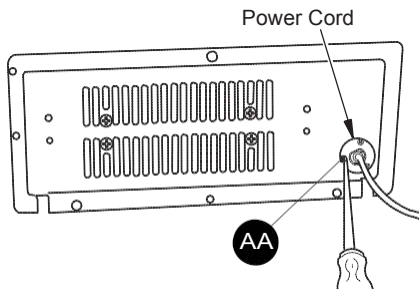

Figure 20 - Attaching Power Cord to Blower Access Panel
3. Attach the power cord to the outside of the blower access panel with 3) M4.2X8 screws (AA) (see Figure 20).